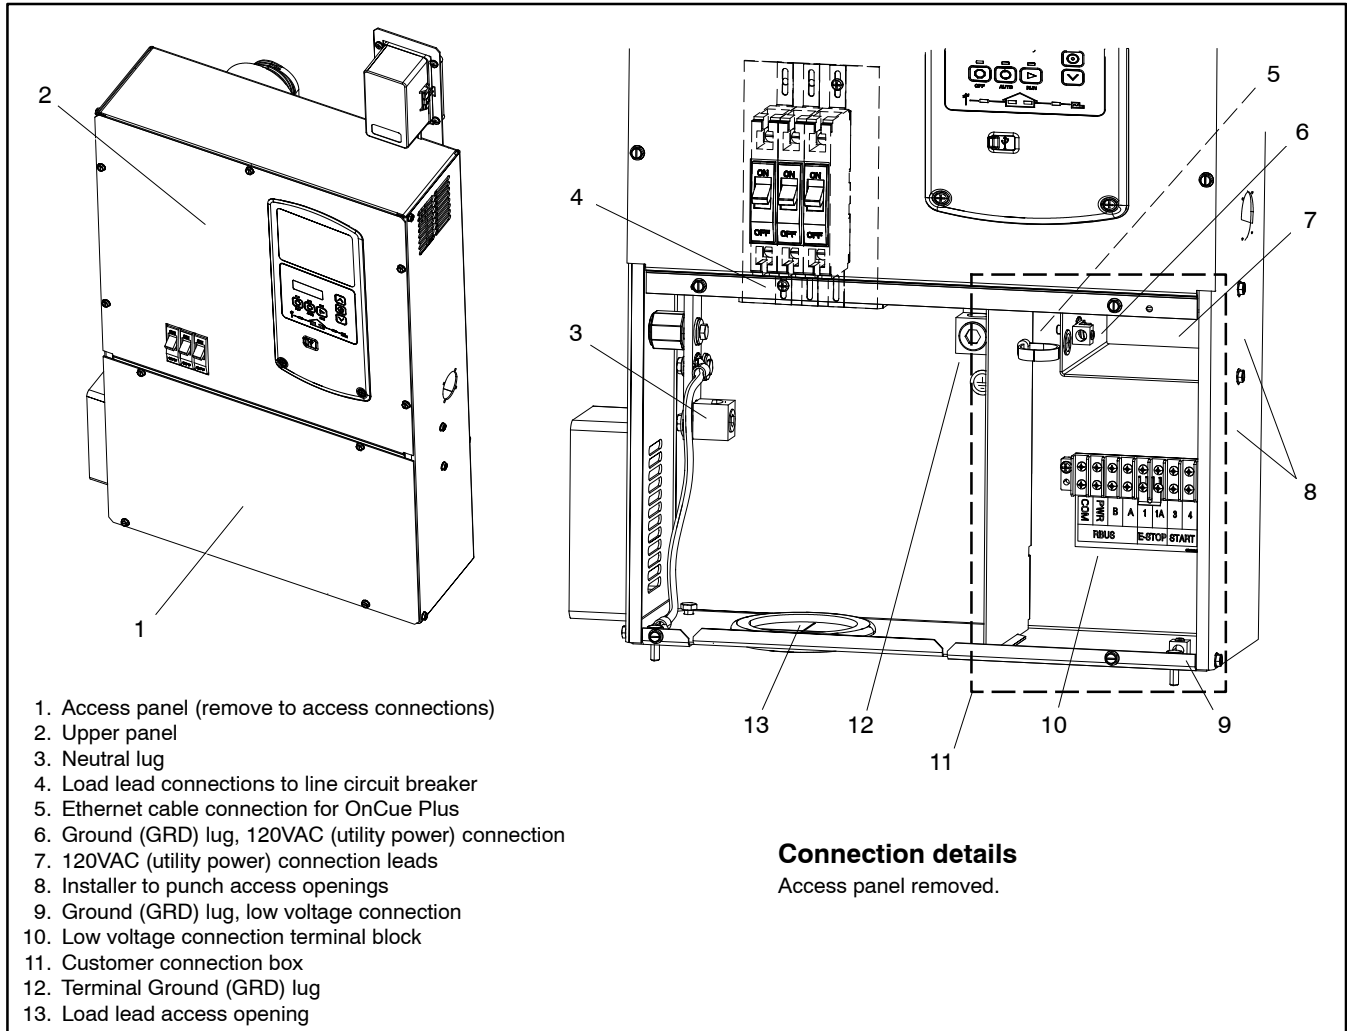

Figure 1-10 Generator Set Connections
Ground the generator set. The grounding method must comply with NEC and local codes. Connect the ground to the generator set ground lug, terminal GRD inside the junction box (see Figure 1-10). Connect the grounds for utility and low voltage connections to the ground lugs provided in the customer connection box for those specific connections (see Figure 1-10).
Connect power to the leads in the utility power connection area shown in Figure 1-10. This connection provides power for charging the engine starting battery. See the wiring diagrams in Section 4 for connection details.
See Figure 1-10. Make all AC and DC customer connections inside the customer connection box. Do not remove the upper panel or make connections inside the upper area of the junction box. Refer to the wiring diagrams in Section 4.
1. Route the load leads into the junction box through the access opening in the bottom of the box. Connect the load leads from the line circuit breaker in the generator set junction box to the transfer switch emergency power connection points. See Figure 1-10 and refer to transfer switch installation manual for ATS connection instructions.
3. Cut or punch openings in the side of the connection box for the 120 VAC power supply leads and the low voltage connections. See Figure 1-10. Use separate conduit for the power leads and the low voltage leads.
4. Connect utility power for the controller's battery charger. Connect to a circuit that is supplied by the utility source and backed up by the generator. See Section 1.4.5 and Figure 1-10 for more information about the utility power requirement.
1. Customer connection terminal block. See Figure 1-10 for location. Check the decal on the generator set for terminal block connections.